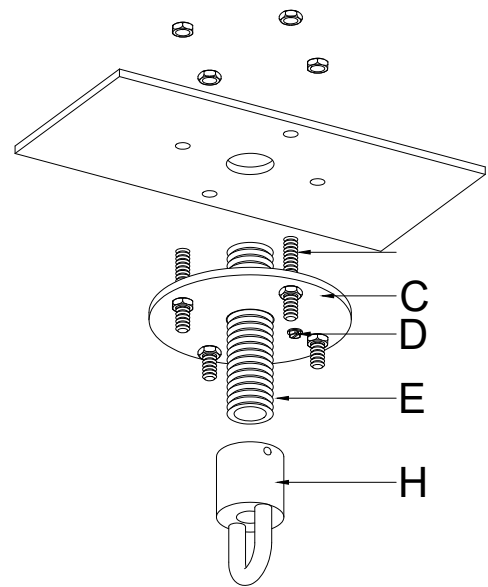

FIGURE 01
2. Place Heavy duty mounting bracket(C) on the building structure by using (4pcs) Machine bolts(B) and attach the Collar loop(H) to the Nipple(E). **(see fig. 01)**